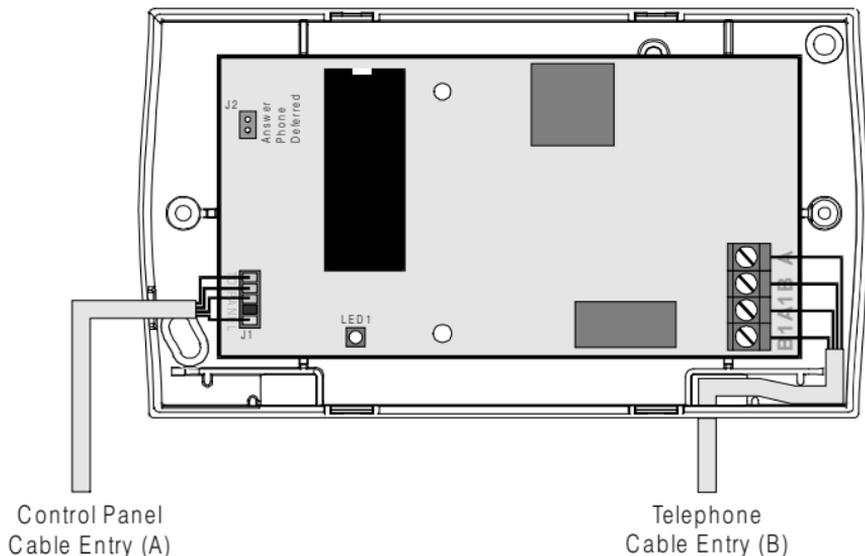

Figure 2. Cable Routing
- 3) Plug one end of the 4-wire harness onto J1 and the other end onto the control panel connector (PL1 – PC-LINK). Ensuring that the harness enters through the cable entry knockout “A” (see Figure 2) in the base.